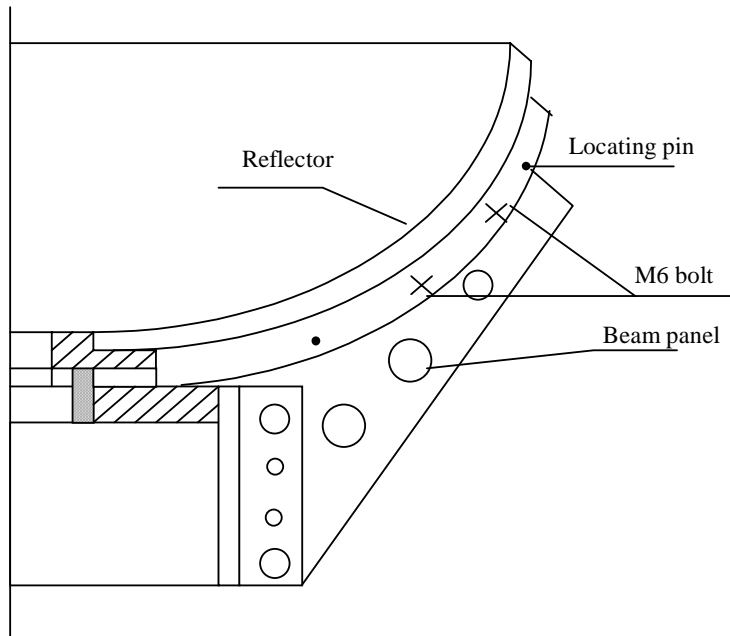

Fig. 7 Beams installation
3. Connect the sectors to the center of the hub with M4×15 bolts. (See Fig.7)